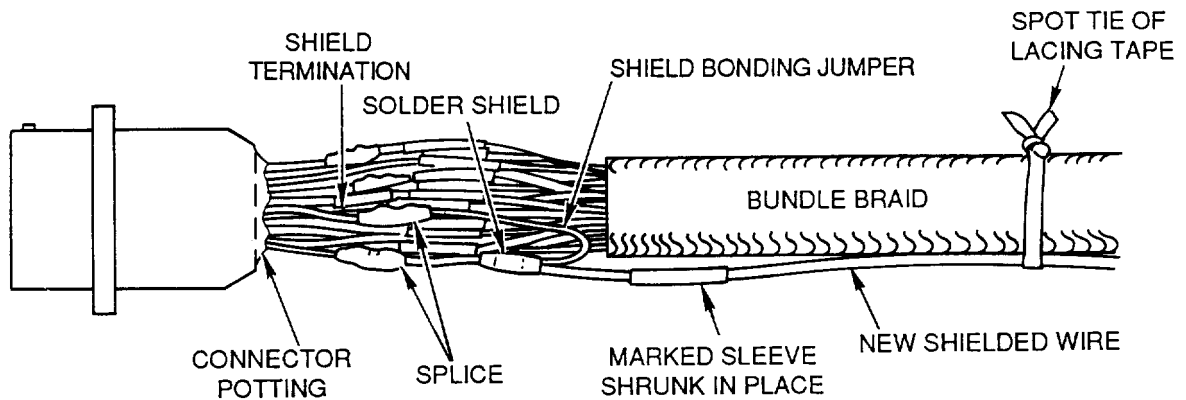

Figure 32. Repairing Shielded Wires
39. **Replace Shielded Wires.** Use the following procedure for replacement of a shielded wire. The new shielded wire shall be parallel and external to the harness and secured with lacing tape (Figure 32).